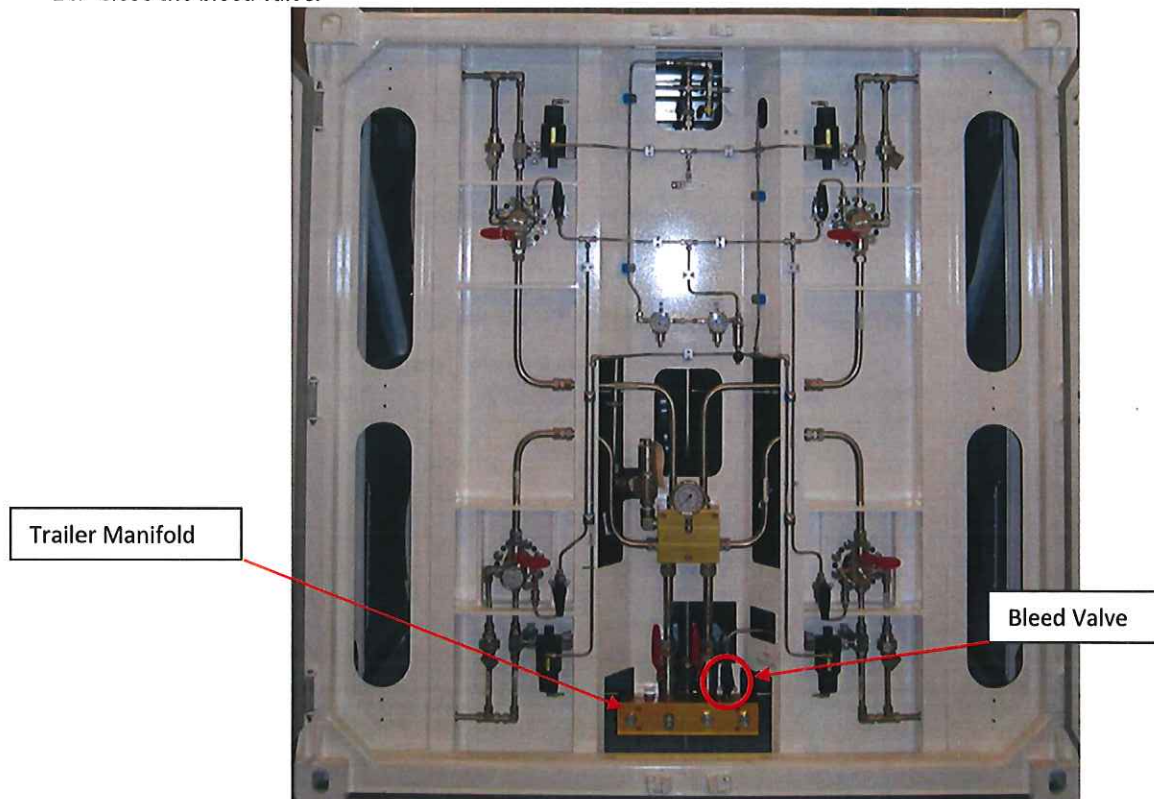

Figure 10: Bleed Valve in "Open" Position
If required by authority having jurisdiction, close the tanks valves and manifold valves otherwise just close manifold. Next, vent the manifold by opening the bleed valve as shown in Figure 10. Finally, disconnect the station's fill line.
6. Open the bleed valve as shown in Figure 10.